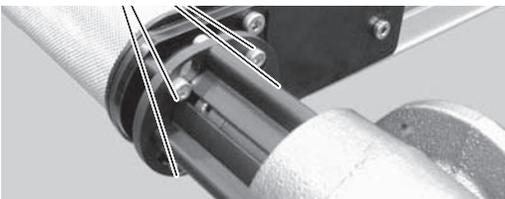

Figure 45
- b. Loosen the four (4) lock screws (Figure 45, item BK).